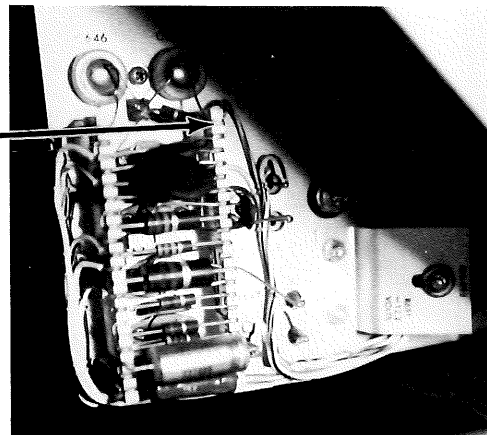

Figure 1-7
7. Check the +20v supply as indicated in step 1. See Figure 1-7.